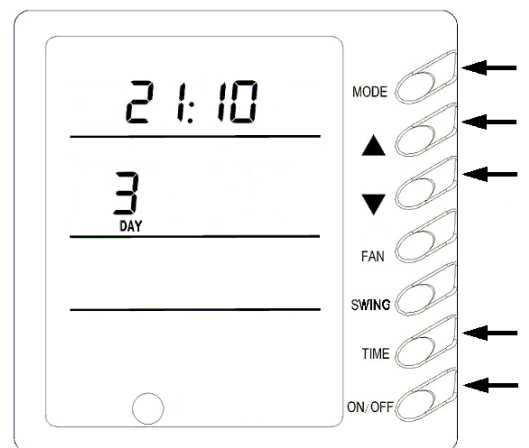

Fig.14
- ❖ In time setting mode press MODE button to select any desired setting object: Week (1-7), min. part (0-59) or hour part (0-23), and then press ▲ or ▼ button to adjust this object, which is fixed by pressing TIMER button or can be canceled by pressing Timer again. During fixing setting there must be blinking characters. During canceling setting, if there are also blinking characters, setting can be continuous till quit It by pressing ON/OFF button.(Fig.14)